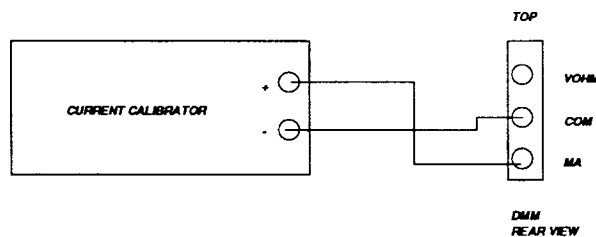

Figure 7-4. Connection of AC Current Calibrator to PCIP-DMM/A
3. Connect a 190 Ohm calibration resistor as shown in Figure 7-4.